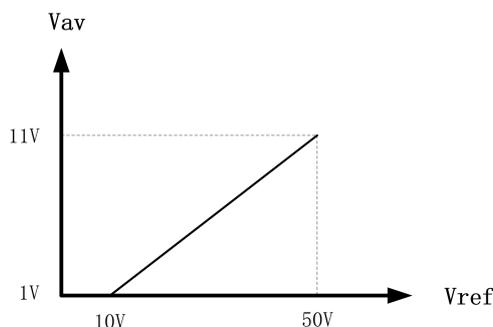

Fig. 4-19 Proportional diagram: preset welding voltage (non-synergic mode) V.S. voltage of analog signal from robot to welding machine
5. Under manual mode (non-synergic), the proportional diagram between the preset welding voltage and analog output value from the robot to the welding machine is shown in Fig. 4-19.